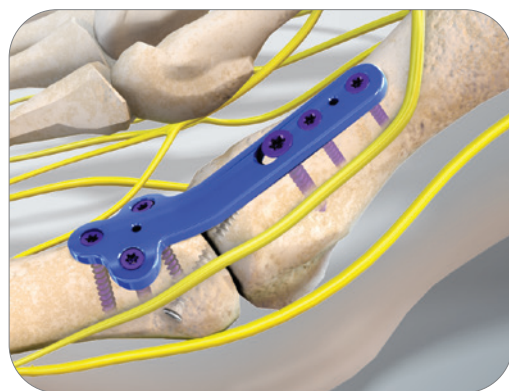

Figure 8-1
**8-1** Prior to closure, fluoroscopy is used to assess the correction of the hallux valgus angle. If sufficient, the incision is closed in layers per the surgeon's desired technique (**Figure 8-1**).
**8-1** Utilizing the screw preparation and insertion technique described in Step 5, insert the remaining proximal screws in the metatarsal (**Figure 8-1**).